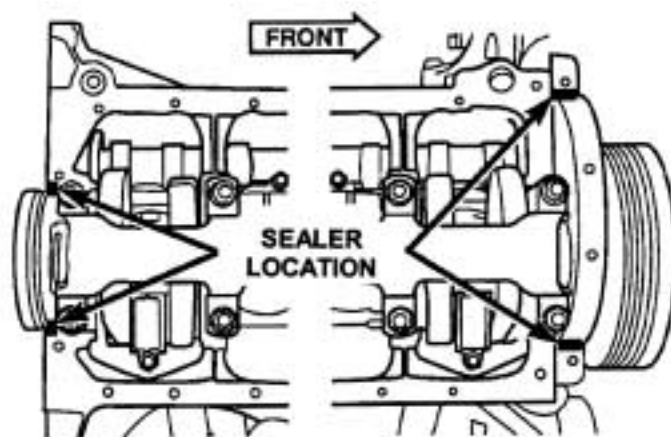

Figure 17
55. Place a small bead of Mopar Silicone Rubber Adhesive Engine Sealant (P/N 04883971) to the corners of the block where the oil pan gasket sets (Figure 17).